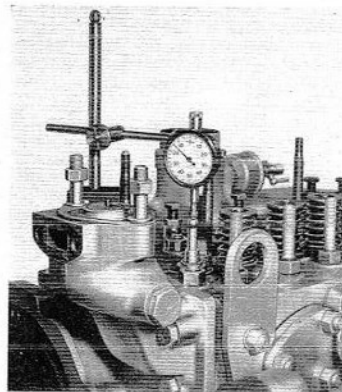

Fig. M.7.
7. Set up a dial indicator gauge as shown in Fig. M.7, with the plunger resting on the top of the valve stem.